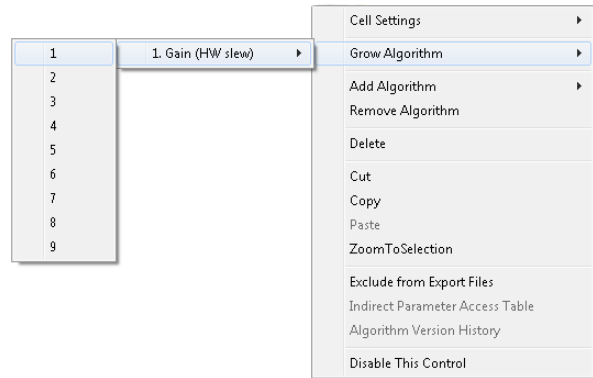

Figure 26. Adding a Channel to the **Single1** Block
- By default, the **Single1** block has one input and one output, meaning it is a single channel. To add another channel, right-click the empty white space of the **Single1** block and from the drop-down menu that appears, select the **Grow Algorithm** > **1. Gain (HW slew)** > **1** option (see Figure 26).